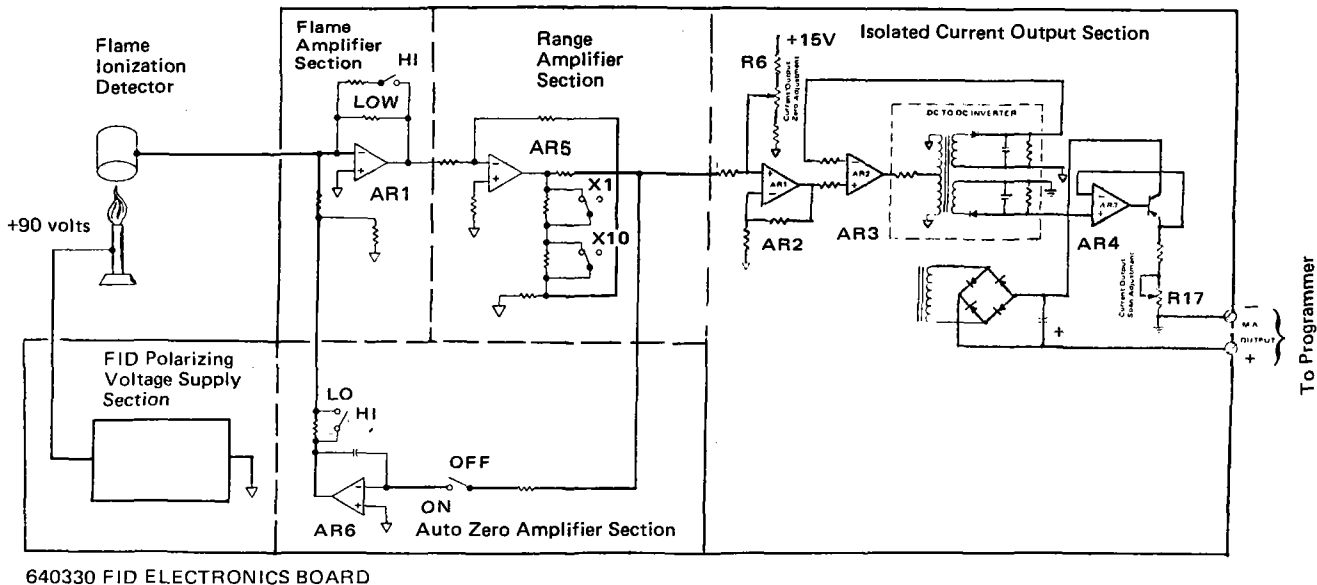

Figure 5-16. Analog Signal Flow for Analyzer with Flame-Ionization Detector (FID)
If equipped with flame-ionization detector, the analyzer utilizes the 640330 FID Electronics Board Assembly. This assembly provides the analog signal circuitry shown in the functional schematic diagram of Figure 5-16. The assembly contains the following:
5. *Flame Ignition Circuit.* (Not shown in Figure 5-16.) Upon closure of the IGNITE Switch in either the analyzer or the programmer, current flows through the glow-plug ignitor in the FID (Paragraph 5.4.2).
6. *±15 Volt Power Supply Section.* (Not shown in Figure 5-16.) This section provides the regulated voltages required for the electronic circuitry of the analyzer unit.
7. *Oven Temperature Control Section.* (Not shown in Figure 5-16.) This section maintains the oven at a controlled, adjustable temperature in the range of 55° to 225°C.